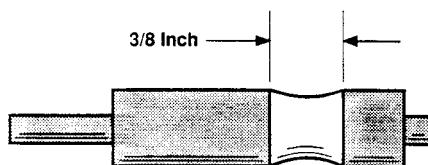

Figure 3-1 Excessive Shaft Wear
1. With the Midi Trak-Ball disassembled, inspect the roller shafts and the idler shaft for excessive wear (see Figure 3-1). If the wear band exceeds 3/8 inch, replace the roller shaft as described in steps 2-6, or replace the idler shaft as described in steps 7-10.